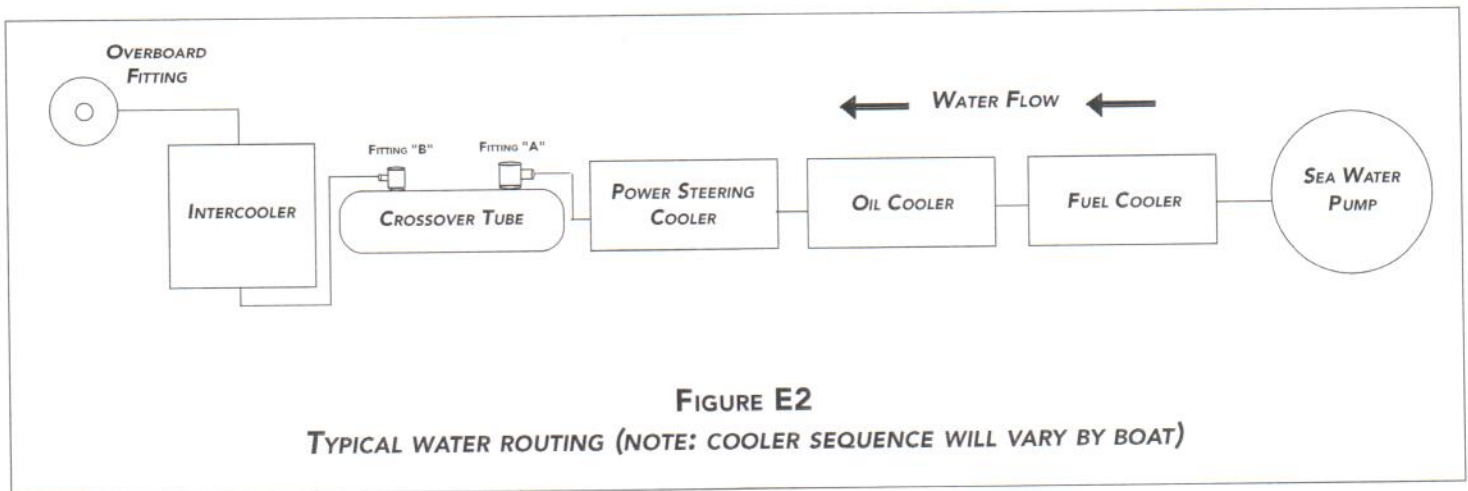

FIGURE E2
5. The supplied fuel cooler can be mounted anywhere within the water path. Refer to figure E2 and F3. The cooler is 9" in length, so find a spot along the rubber hoses that is at least 8" in length and relatively straight in which you can splice in the cooler. Connect the fuel inlet of the fuel cooler to the bottom *straight* hose barb fitting coming out of the fuel pressure regulator with the supplied 3/8" rubber hose. Secure with hose clamps. Next, connect the fuel outlet of the fuel cooler to the the "T" fitting (# 5 fitting in figure F3) with the supplied 3/8" rubber hose. Secure with hose clamps.